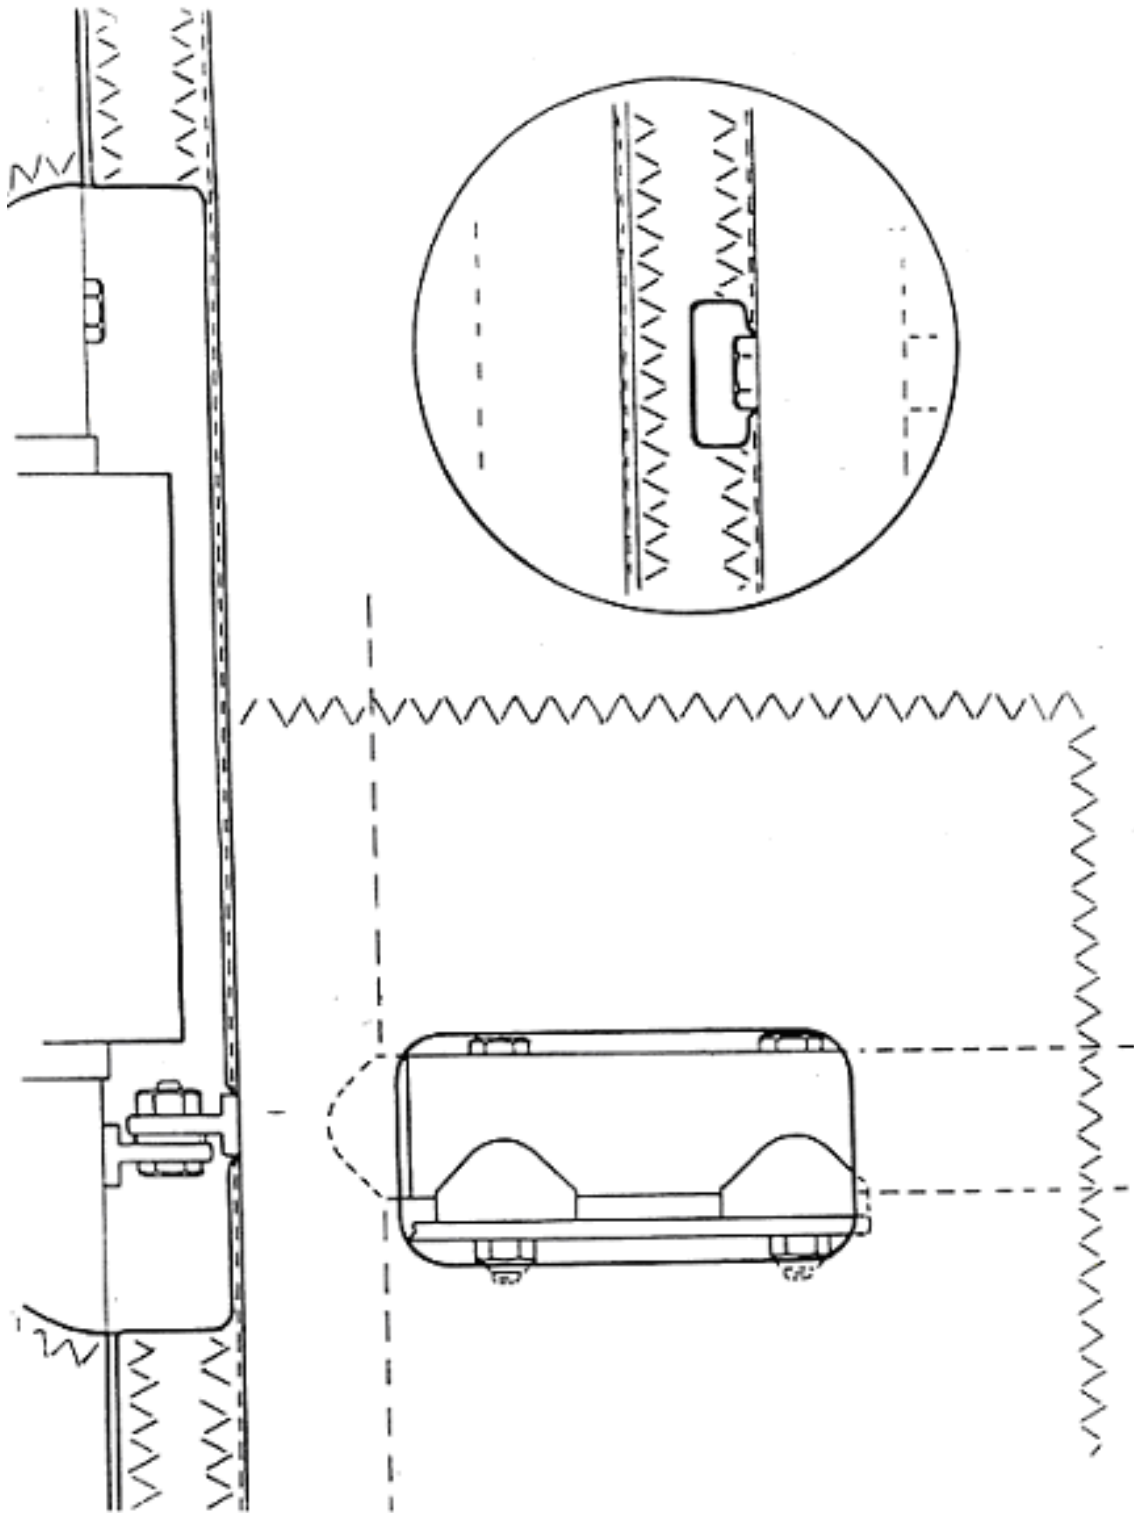

Figure 73 – Rudder Belcrank Hole
Install (2) TC1 and (2) TC2 into each end of spreader/belcrank mount S19. Use AN3-12A and N3S to secure aft end and temporarily mount forward fitting with AN3-15A. Position rudder trailing edge S17 into rudder sail. Be sure sail is positioned properly. Note: reinforcement in sail should line up with S19. Aft Mounting hole in trailing edge S17 is 21” from bottom edge. Place leading edge S16 into sail making sure forward mounting hole for S19 is 21” from bottom edge. Secure with (2) AN43-15A eyebolts. Refer to Figure 73 and cut access hole in sail for rudder belcrank.